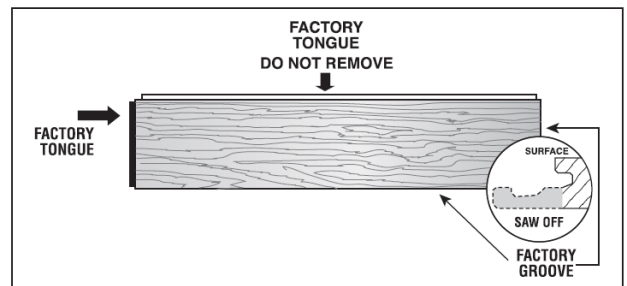

Fig. 41
6. Prepare replacement board by removing bottom of groove on end and side (**Fig. 41**).